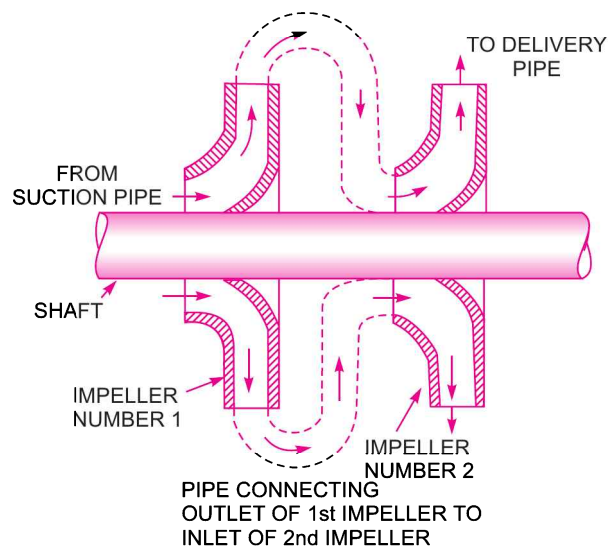

Fig. 19.12 Two-stage pumps with impellers in series.
19.6.1 Multistage Centrifugal Pumps for High Heads. For developing a high head, a number of impellers are mounted in series or on the same shaft as shown in Fig. 19.12.
The water from suction pipe enters the 1st impeller at inlet and is discharged at outlet with increased pressure. The water with increased pressure from the outlet of the 1st impeller is taken to the inlet of the 2nd impeller with the help of a connecting pipe as shown in Fig. 19.12. At the outlet of the 2nd impeller, the pressure of water will be more than the pressure of water at the outlet of the 1st impeller. Thus if more impellers are mounted on the same shaft, the pressure at the outlet will be increased further.